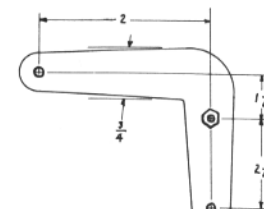

Fig. 4 CRANK ARM
7. Cut out the flat crank arm of Fig. 4. Round all sharp edges and drill holes E, F, and G carefully.